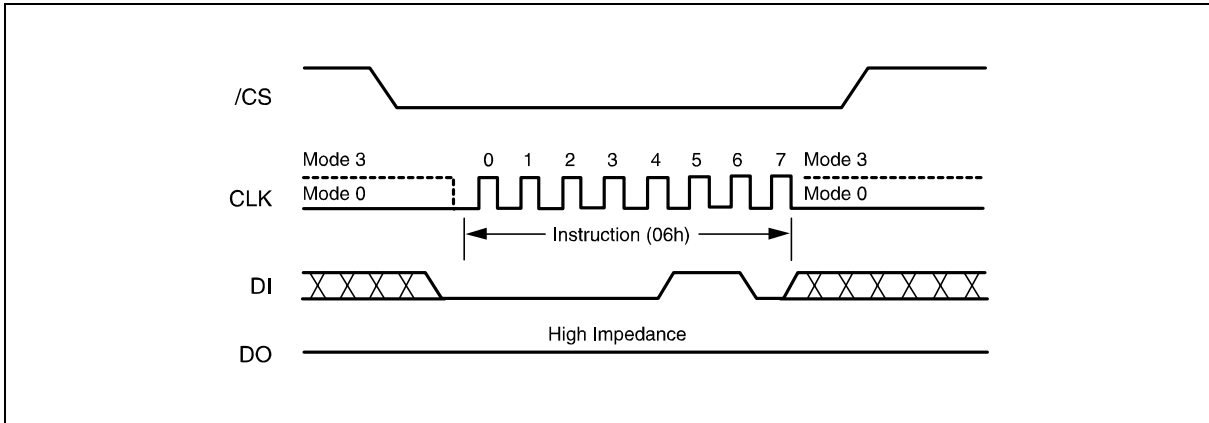

Figure 4. Write Enable Instruction Sequence Diagram
Instructions vary in length from a single byte to several bytes and may be followed by address bytes, data bytes, dummy bytes (don't care), and in some cases, a combination. Instructions are completed with the rising edge of edge /CS. Clock relative timing diagrams for each instruction are included in figures 4 through 21. All read instructions can be completed after any clocked bit. However, all instructions that Write, Program or Erase must complete on a byte boundary (/CS driven high after a full 8-bits have been clocked) otherwise the instruction will be terminated. This feature further protects the device from inadvertent writes. Additionally, while the memory is being programmed or erased, or when the Status Register is being written, all instructions except for Read Status Register will be ignored until the program or erase cycle has completed.
The Write Enable instruction (Figure 4) sets the Write Enable Latch (WEL) bit in the Status Register to a 1. The WEL bit must be set prior to every Page Program, Sector Erase, Chip Erase and Write Status Register Erase instruction. The Write Enable instruction is entered by driving /CS low, shifting the instruction code "06h" into the Data Input (DI) pin on the rising edge of CLK, and then driving /CS high.